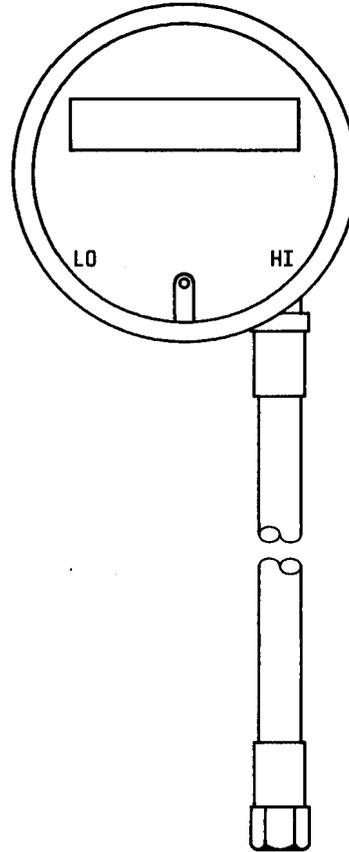

Fig. 8—870A Tester Tool
2.16 **870A:** The 870A tester tool (Fig. 8) consists of a manometer and an air hose assembly designed to check disk enclosure pressure on the KS-20698 disk memory.